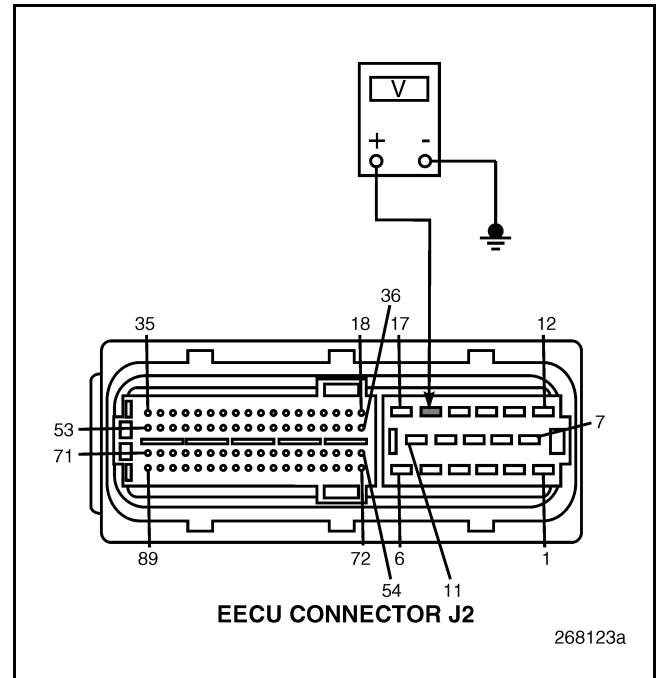

Figure 529
4. Measure the voltage between EECU connector J2 pin 16 and a good ground (see Figure 529).